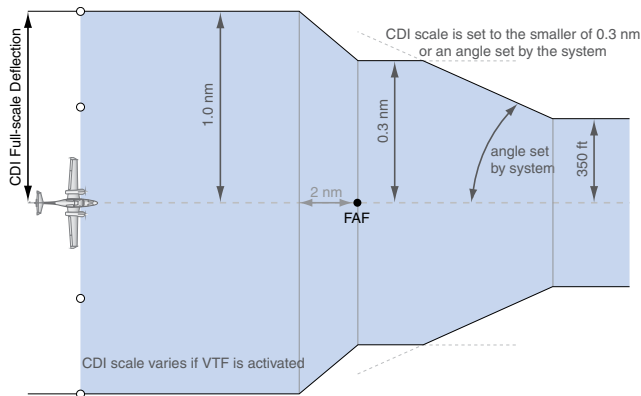

Figure 2-22 Typical LNAV and LNAV+V Approach CDI Scaling
- During **approach**, the CDI scale ramps down even further (Figures 2-22 and 2-23). This transition normally occurs within 2.0 nm of the final approach fix (FAF). The CDI switches to approach scaling automatically once the approach procedure is activated or if Vectors-To-Final (VTF) are selected.